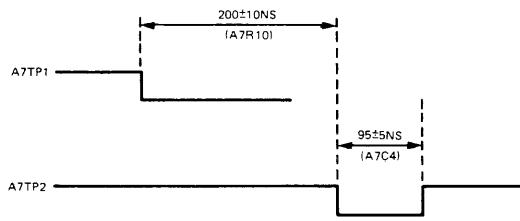

Figure 5-2. Delay and Clock Width Adjustments
- Adjust delay clock A7R10 for 200-ns delay (± 10 ns) between falling edges of signals at A7TP1 and A7TP2 (figure 5-2).
- Adjust clock width A7C4 for 95 ± 5 ns between falling edge and rising edge of signal at A7TP2 (figure 5-2).